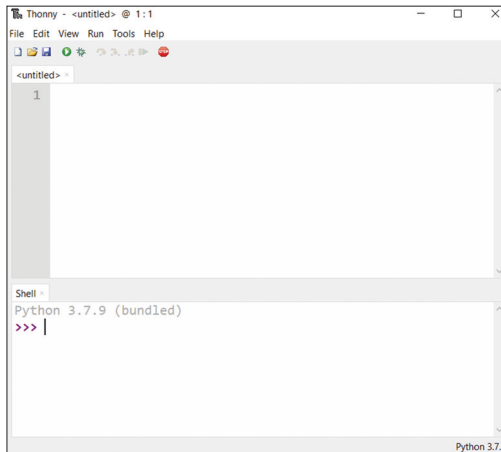

Figure 2.4: Thonny startup screen on the PC.
- The startup screen of Thonny on your PC is shown in Figure 2.4.